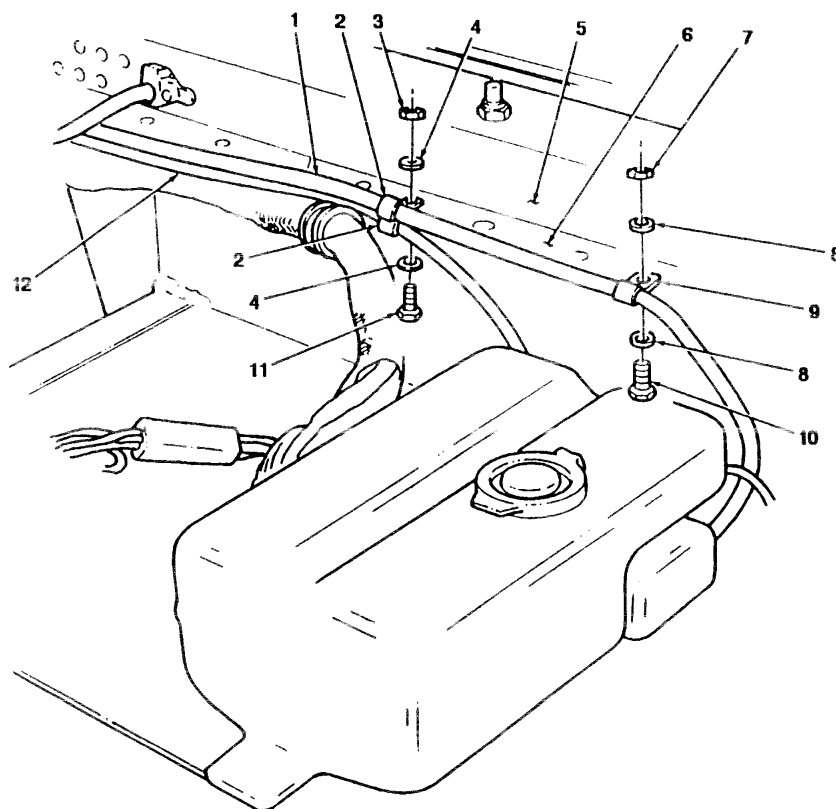

FIGURE 3-6
1. Remove nut (7), washer (8), clamp (9), screw (10), and washer (8) securing hose (1) to top of body hood rail (6) on A-pillar (5). (see figure 3-6)
2. Remove nut (3), washer (4), two clamps (2), screw (11), and washer (4) securing two hoses (1) and (12) to top of body hood rail (6) on A-pillar (5).